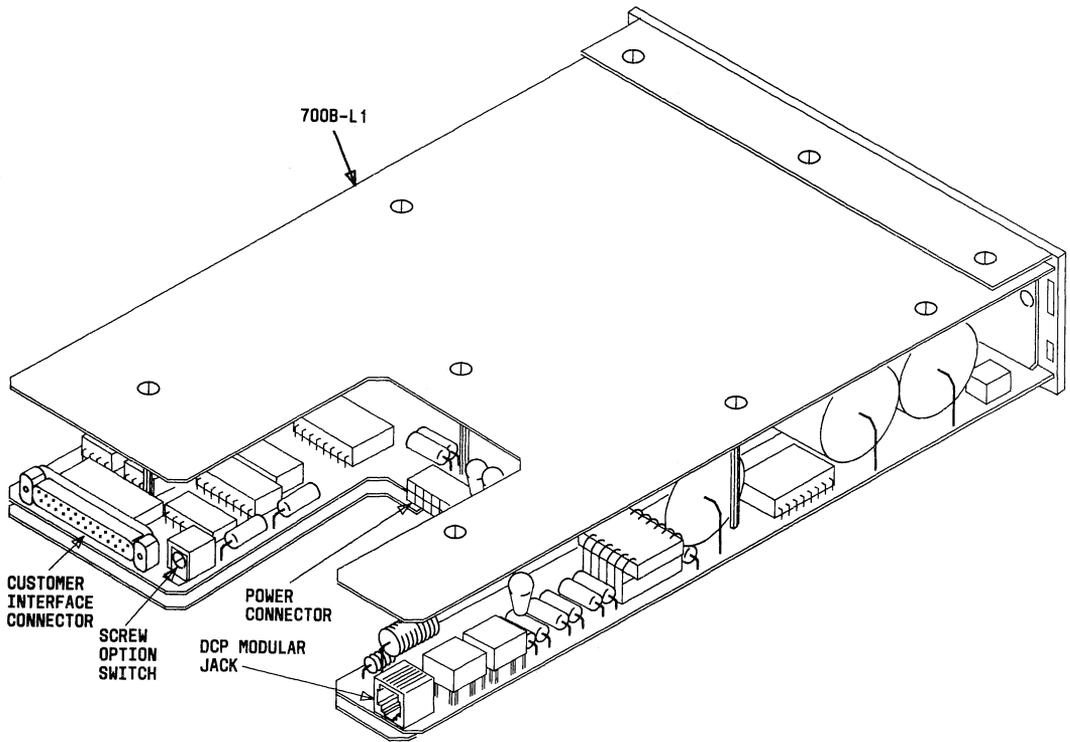

Fig. 3—Rear View of Trunk Data Module Circuit Pack
2.06 A 25-pin female (RS-232-C) customer interface connector (Fig. 3) is provided at the rear of the circuit pack for connection to a private line data set or data service unit via an M25B cord. The connector pin numbers, the corresponding circuit mnemonics, and descriptions are given in Table A.
2.07 A modular jack DCP connector (Fig. 3) is provided at the rear of the circuit pack for connection to a LINE jack via a D8W-87 wire cord (customer provided). The connector pin numbers, circuit mnemonics, and descriptions are given in Table B.
2.08 The rear of the trunk data module circuit pack also contains a power connector and a screw option switch (Fig. 3) which permits connection of the circuit ground to the frame ground. When this screw is fully tightened, the frame ground and the signal ground will be connected. When this screw is loosened (not making contact), frame ground and signal grounds are isolated.